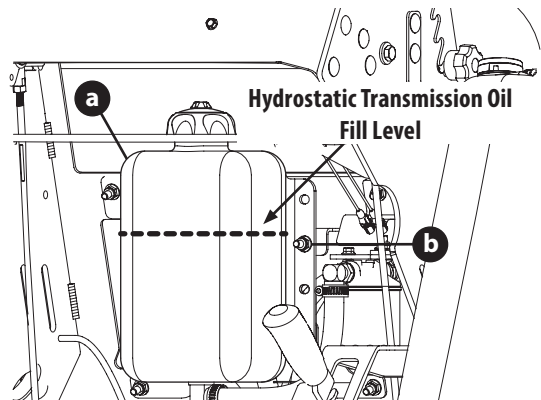

Figure 26
1. Locate the hydrostatic transmission oil reservoir (a) behind the engine under the control panel (Figure 26).
2. Ensure the hydrostatic transmission oil reservoir level is just above the upper reservoir mounting bolts (b) (Figure 26).
7. Add hydrostatic transmission oil until the level is even with the upper reservoir mounting bolts (Figure 26 on page 21).